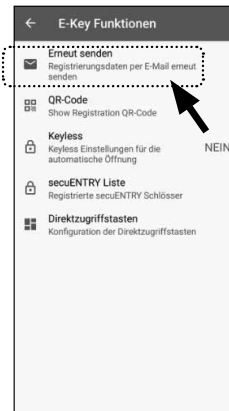

Fig. 48
- 5 Tap on "Send again" in the next menu (Fig. 48).